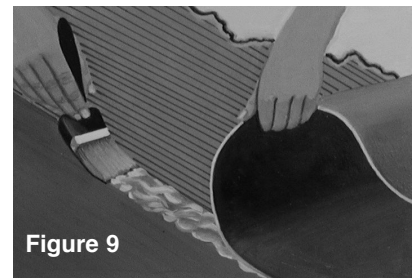

Figure 9
**IMPORTANT** - Use only **PASCO Vinyl Shower Pan Liner Solvent Cement** (Part Number 3008) for joining pan sheets. It is specially formulated to make a permanent waterproof seal when used as directed. To join sheets allow a 4" minimum overlap. Apply a thin, even coat of cement to both surfaces to be joined. The entire surface of material to be joined must be covered with cement. Apply the cement to short lengths of material, not to exceed 3 feet at a time, **Figure 9.**